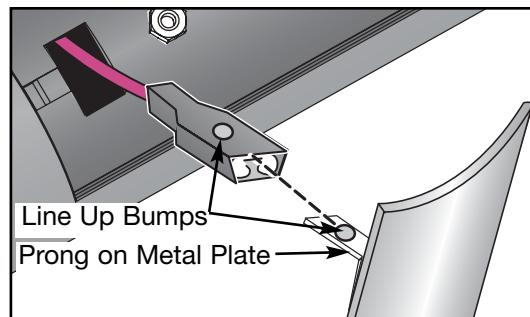

Figure 31
- B.** Locate the small bump on the metal contact prong and on the connectors. See Figure 31.
- C.** Connect the each cable to a metal prong with the bumps lined up. See Figure 31.